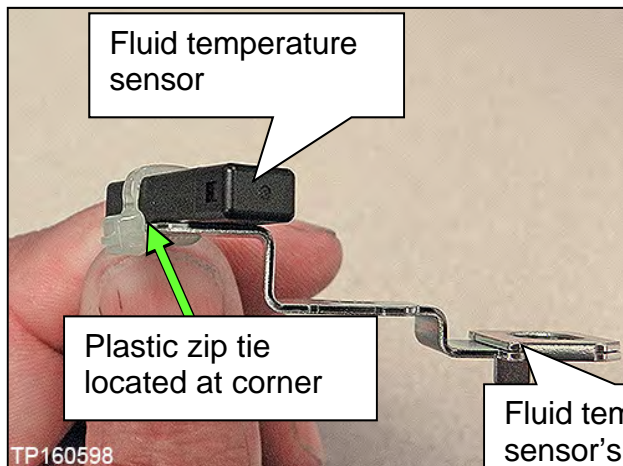
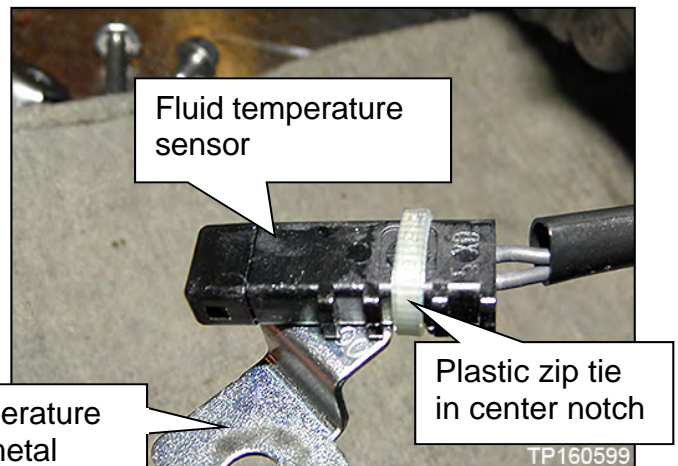

Figure 155
Figure 156
- a. Cut the old plastic zip tie with an appropriate tool to remove the fluid temperature sensor's metal bracket from the terminal harness assembly (Figure 155 and Figure 156).
- Secure the plastic zip tie at the center notch of three notches on the fluid temperature sensor (Figure 155 and Figure 156).